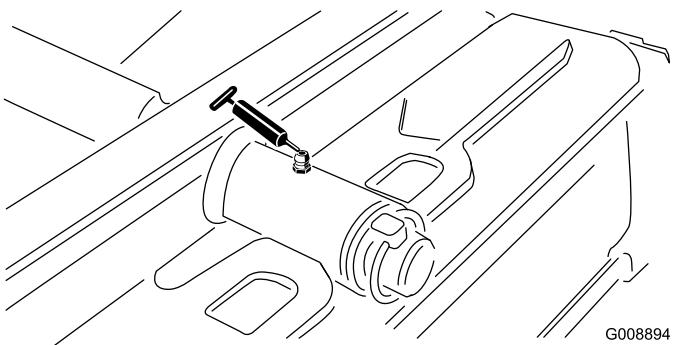

Figure 31
- Rear cutting unit pivot (Figure 31)